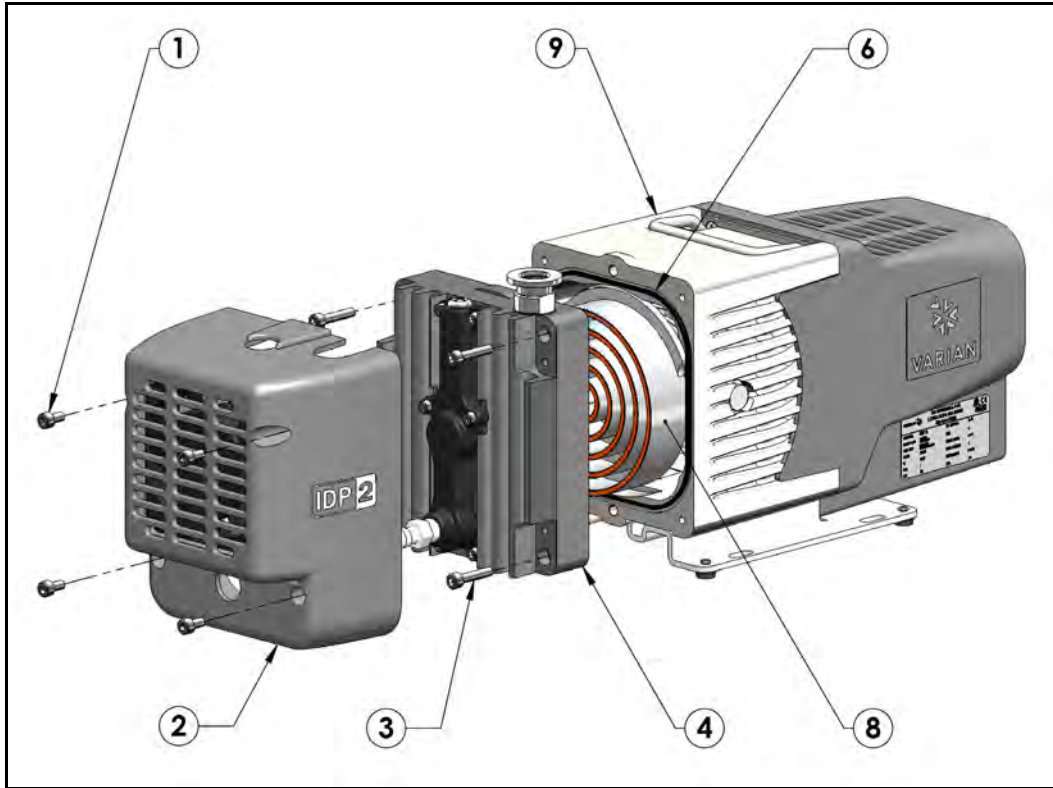

**Figure 11 Tip Seal Seating**
2. Install the correct tip seal into the groove of the orbiting scroll (item 8) by:
- a. Facing the cutting burrs on the edges of the seal upwards, inserting the tightly curled end into the center of the orbiting scroll, until the seal is well seated in the groove and the anchor inside the groove protrudes into the seal's side (Figure 11). The seal may need to be pushed firmly to sit well into the groove.